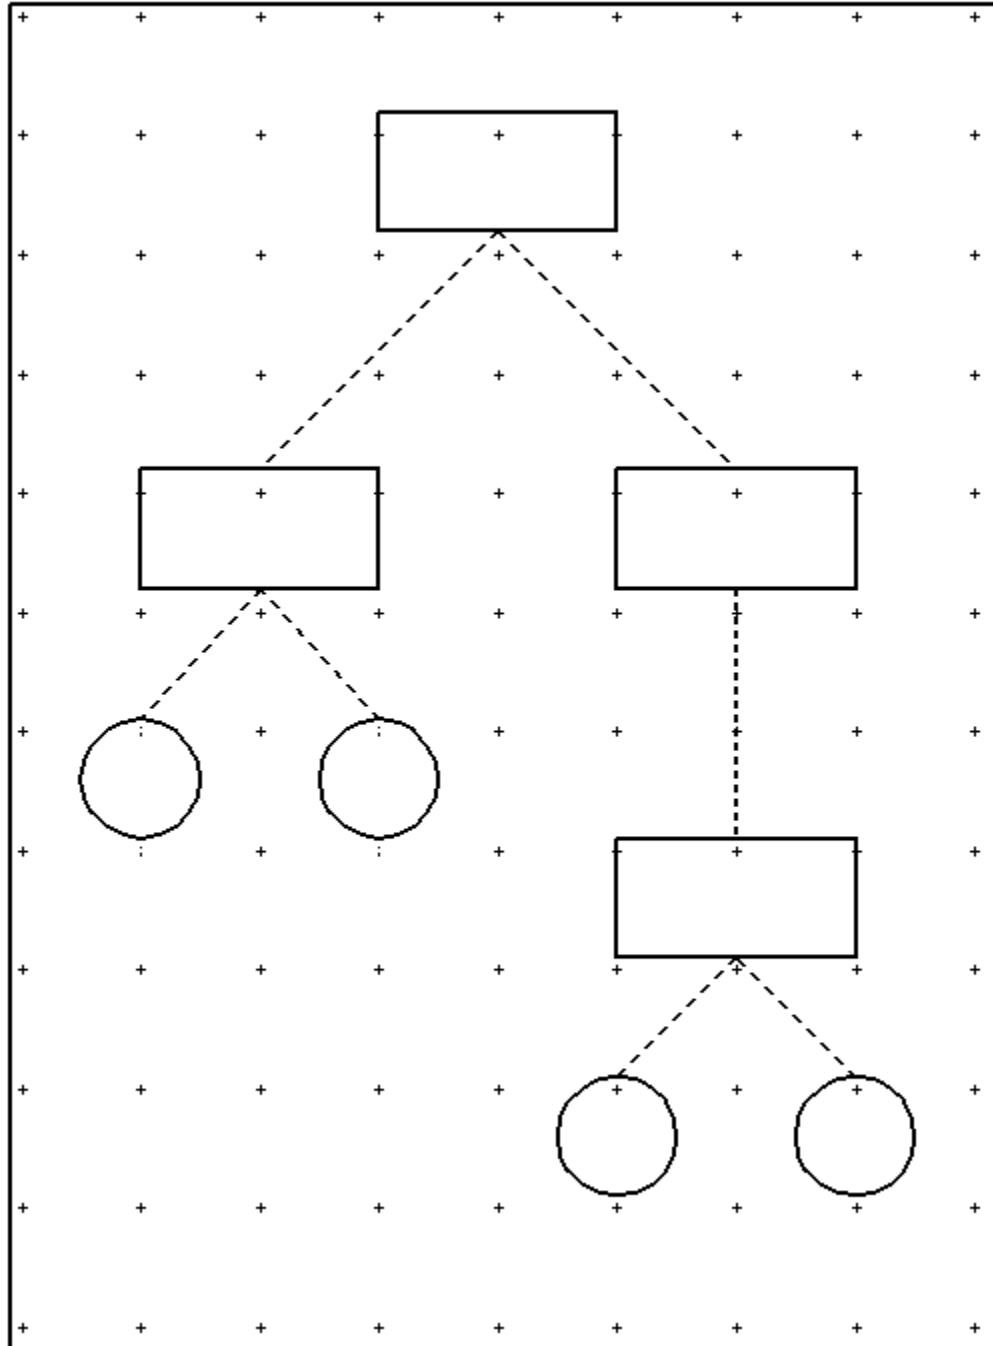

Figure 2-Lab 3
3. Draw figure 2-lab 3. Use PLACE LINE, PLACE CIRCLE, COPY ELEMENT commands. Use the PRIMARY TOOLS menu for different line style and weight. Make the length of these lines 200 feet long and 100 feet high. Make the circles 100 feet in diameter.